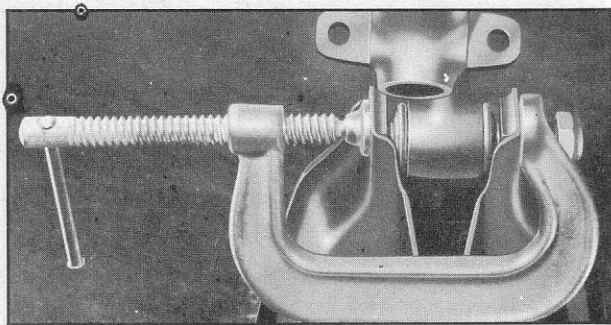

Fig. 18—Indexing Threads of Pivot and Lower Control Arm
5. If the threads do not index properly, place a "C" clamp over ends of control arm and compress the ends slightly trying the threads as you proceed (fig. 18). It will be found that very little compression will allow the threads to index properly.